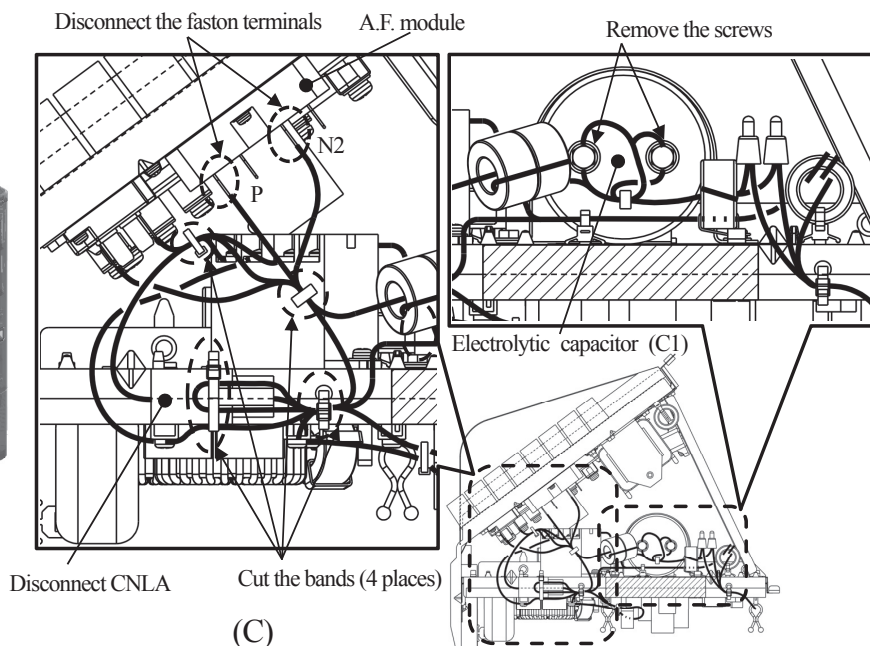

Fig.3 Top view of controller
- 1.6 Cut the bands (4 places), while disconnect the CNLA connector and the faston terminals ("P" and "N2") as shown in (C) in Fig.3.
- 1.7 Remove the screws of the electrolytic capacitor as shown in Fig.3.